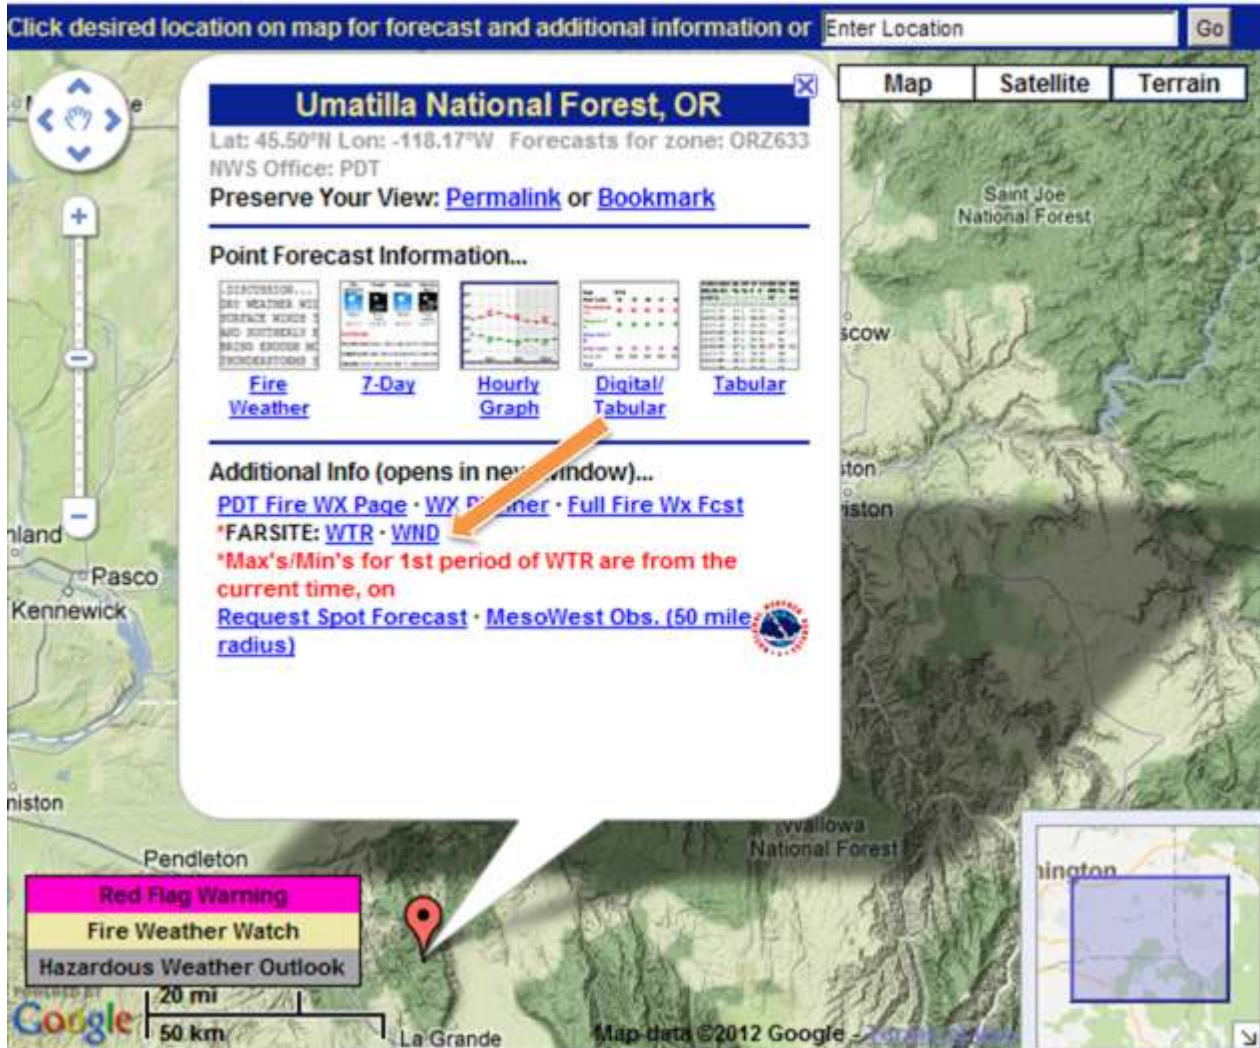

Figure 3-38—Pop-up window for the clicked on location on the map and the link to the WTR and WND files highlighted.
- Zoom into north eastern Oregon and click on the map near the Mt. Emily project area which is just north of La Grande (fig. 3-38).
- 3) Click on the **WTR** link to the right of FARSITE in the pop-up window (see fig. 3-38). This will open a new browser window with the WTR data for the past week (fig. 3-39).
- 4) Click on the **WND** link to the right of FARSITE in the pop-up window (see fig. 3-38). This will open a new browser window with the WND data for the past week (fig. 3-42).